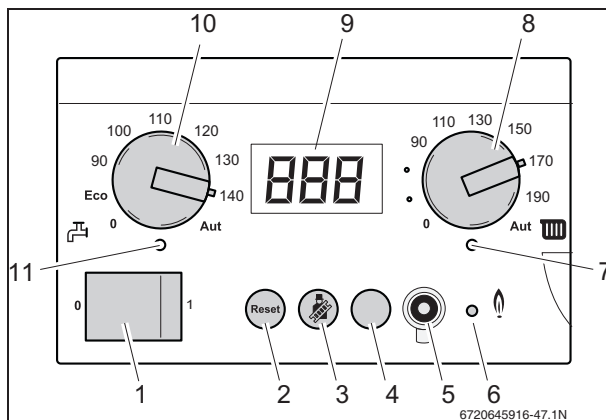

Fig. 69 BC10 basic controller
- Set the upper space heating water temperature limit for heating mode with the "space heating water temperature" knob (fig. 69, [8]); → table 19. This limitation does not apply to DHW preparation.
- Set the DHW temperature knob (fig. 69, [10]) to the required temperature of the hot water in the hot water cylinder (→ table 20).